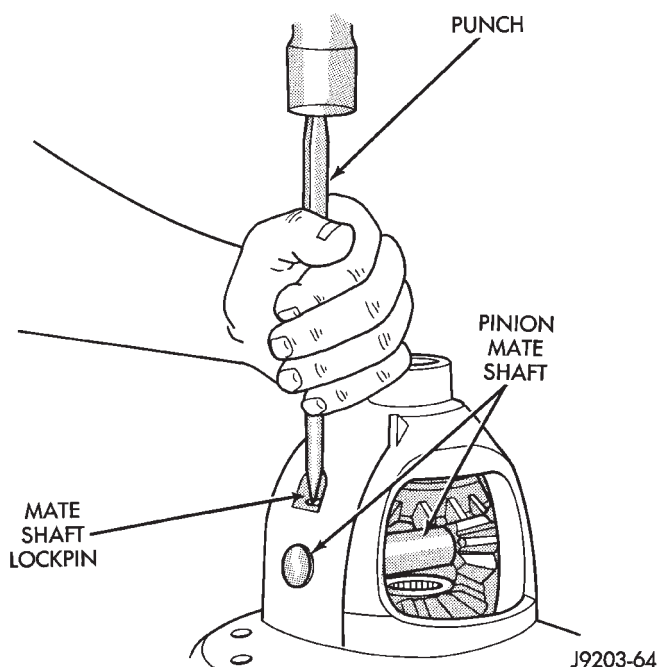

Fig. 38 Pinion Mate Shaft Roll-Pin Installation
- (1) Install the differential side gears and thrust washers.
- (2) Install the pinion mate gears and thrust washers.
- (3) Install the pinion gear mate shaft.
- (4) Align the hole in the pinion gear mate shaft with the hole in the differential case.
- (5) Install and seat the pinion mate shaft roll-pin in the differential case and mate shaft with a punch and hammer (Fig. 38). Peen the edge of the roll-pin hole in the differential case slightly in two places, 180° apart.